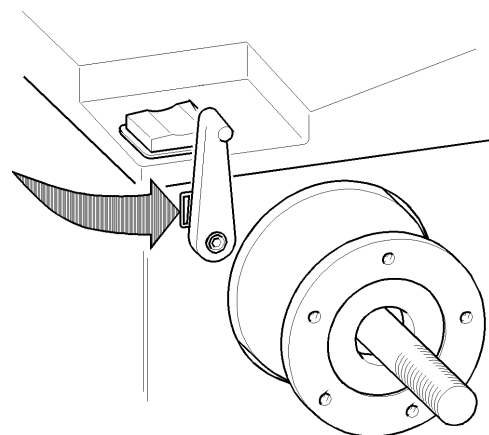

Fig.66
**D.** Move the gauge to a vertical position to match with the reference marks reported on a sticker on the side of the machine (Fig.66) or point to the edge of a 14" wheel. While holding the gauge in position, press **F**. The display shows **[dia] [End]** then **[CAL] [end]**.